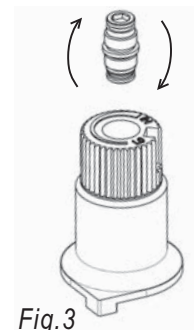

Fig.3
- 12) Flip the screw (Fig. 3).